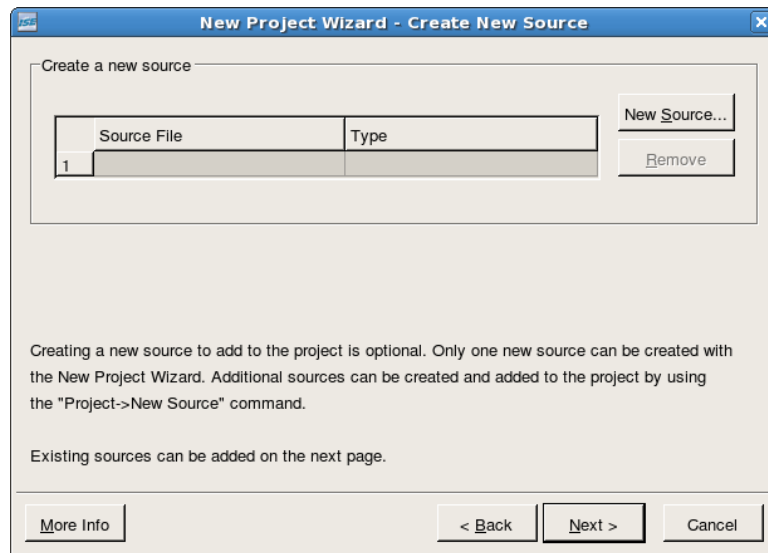

Figure 3: Create New Source
- (d) Next, the 'Create New Source' window appears (Figure 3). Click on 'New Source' to create a new source file.